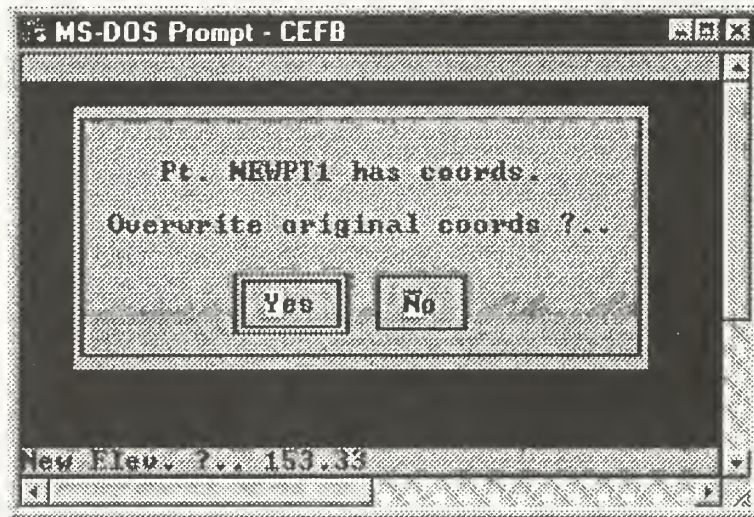

Figure 6.9: Existing Coordinates Overwrite Prompt
- 3a. If in geodetic mode, the command line should now read: *Forward (F) or mean(M)* **?..<M>**. Press **<Enter>** or **M** if you desire a mean geodetic bearing/azimuth, or the letter **F**, and **<Enter>** for a forward geodetic bearing. Ex. **M** for Mean
- 6a. If the station entered in step 5, already exists in the defined coordinate (.cr) file, the operator will be presented with the prompt shown in Figure 6.9 after step six.